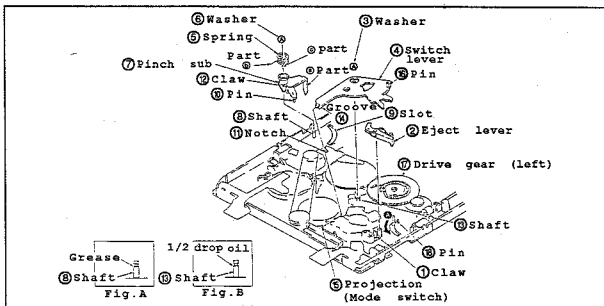

Fig.II-20
• Disassembling (Fig.II-20)
- (1) Set unloading state.
- (2) In the same procedures in "3-3", dismount the capstan motor.
- (3) To dismount the eject lever ②, unhook the claw ①.
- (4) To detach the switch lever ④, remove the washer ③.
- (5) Remove the spring ⑤.
- (6) To detach the pinch sub arm ⑦, remove the washer ⑥.
• Reassembling (Fig.II-20)
- (1) Apply the grease onto the shaft ⑩. (Fig.A)
- (2) Assemble the pinch sub arm ⑦ while inserting the ④ part into the slot ⑨.
- (3) Secure it with the washer ⑥.
- (4) Hook the ⑥ part of spring ⑤ between the claw ⑫ and the chassis side while hooking ③ part to the claw ⑫.
- (5) Apply 1/2 drop of oil to the shaft ⑪. (Fig.B)
- (6) Assemble the switch lever ④ to the shaft ⑬ while aligning the groove ⑭ with the projection ⑮ of mode switch. At this time, insert the pin ⑮ to the outside groove ⑰ of drive gear (left) ⑰.
- (7) Secure it with a washer ③.
- (8) Attach the eject lever ② and hook the claw ①.
- (9) In the same procedures in "3-3", mount the capstan motor.
*Note: When installing the switch lever ④ to the shaft ⑬, set the pin ⑮ of tension regulator arm to the inside of switch lever ④. (within the extent of ① indicated by an arrow.)